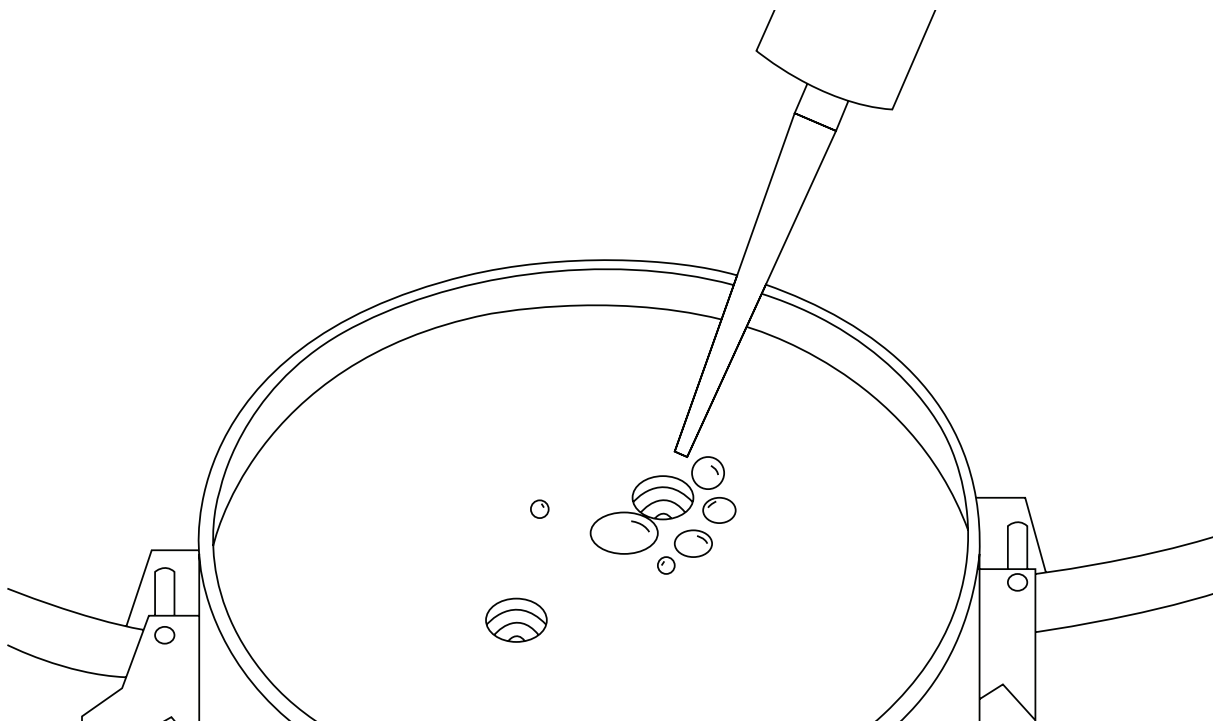

Figure 12 Fill HYPROP holes
1. Fill the holes of the HYPROP sensor unit with deionized water using the droplet syringe (Figure 12). Be sure there are no bubbles as you fill the HYPROP sensor tensiometer shaft holes.